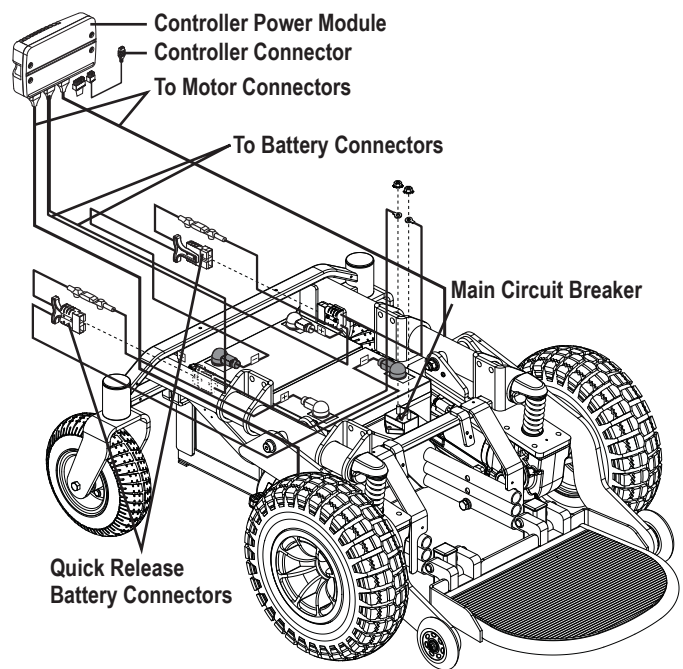

Figure 1. Electrical Components
Your power chair has two main assemblies: the seat assembly and the power base assembly. Typically, the seat assembly includes the armrests, seatback, and seat base. The power base assembly includes two motor/brake assemblies, two drive wheels, two caster wheels, two anti-tip wheels, two batteries, and wiring harnesses. **See Quantum/Jazzy 1450 Series (page 4) and figure 1.**
The electrical components consist of the controller assembly, the batteries, and the motors. The batteries, motors, and controller power module (if equipped) are located on the power base assembly. The controller is located on the seat assembly. Connectivity between the controller and the motors, batteries, and the battery charger is provided by one or more wiring harnesses. **See figure 1.**
5. Plug the controller connector into the rear of the power base. **See figure 1.**
See figure 1.